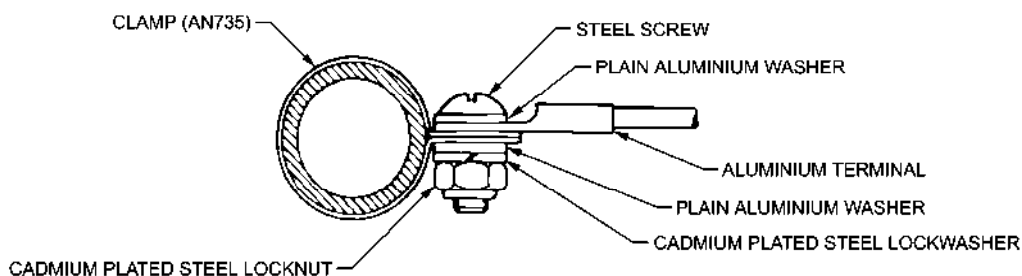
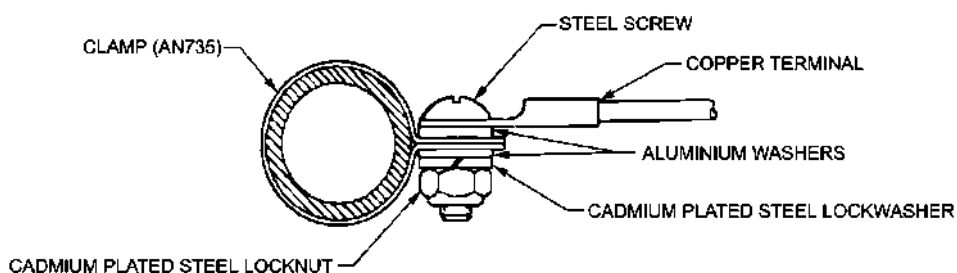

Figure 13-6 Aluminium Jumper Connection to Tubular Structure
Figure 13-7 Copper Jumper Connection to Tubular Structure
21. Make bonding or grounding connections to aluminium alloy, magnesium alloy, or corrosion resisting steel tubular structure as shown in Figure 13-6 and Figure 13-7. Figure 13-6 shows the arrangement of hardware for bonding with an aluminium jumper. Because of the ease with which aluminium is deformed, it is necessary to distribute screw and nut pressure by means of plain washers as shown. Figure 13-7 shows the arrangement of hardware for bonding with a copper jumper. No extra washers are used. If installation conditions require, use an AN742 clamp (non-cushioned) instead of an AN735 clamp. Do not change any other hardware if this substitution is made.